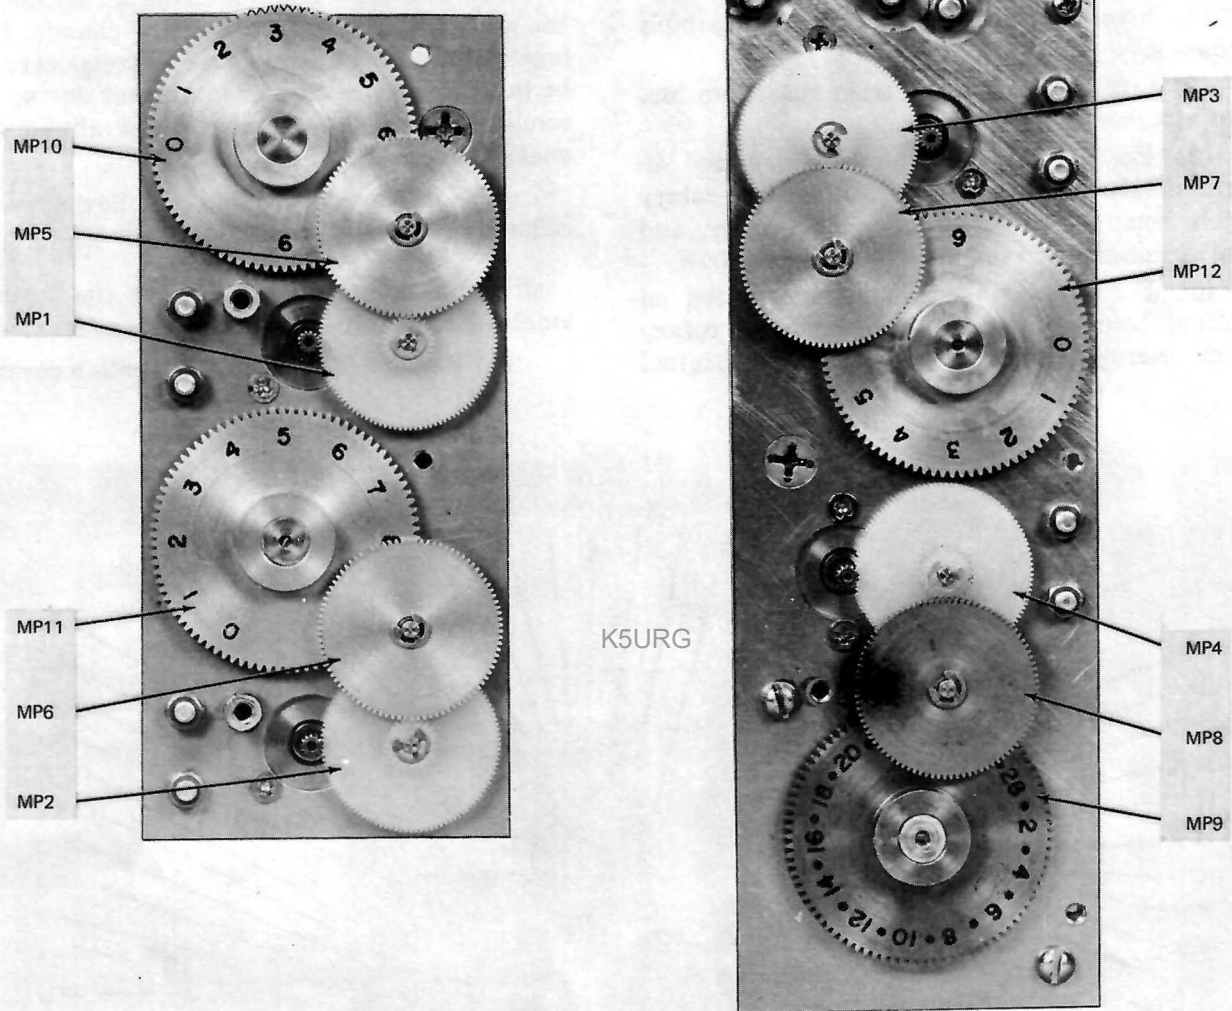
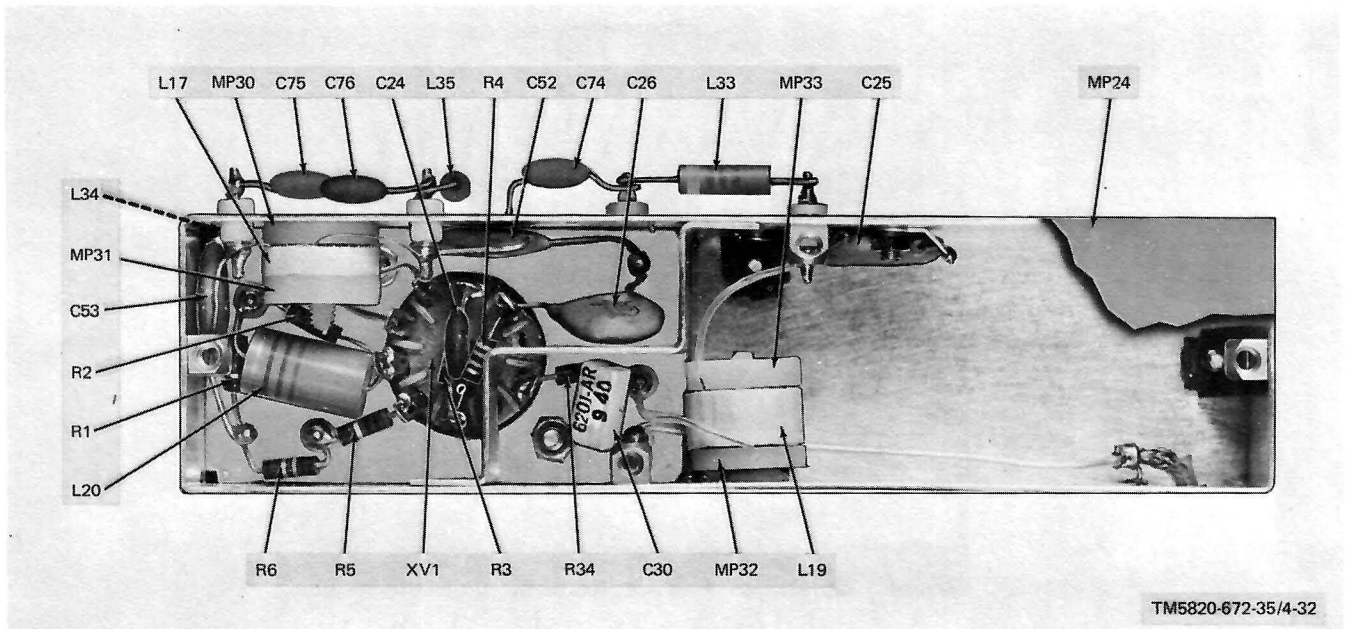

Figure 3-3. Digital to analog converter module gear train.
Figure 3-4. Input RF amplifier.
be taken to insure correct alignment during reassembly. Figure 3-3 shows correct alignment of gears to one another.
(5) For access to components mounted on terminal board mounted over relays, remove three screws. These screws must be *glyped* prior to reassembly.
(6) The gear train is made accessible, once the assembly is lifted clear of the chassis. If, for any reason, gears are removed, extreme care must be taken to insure correct alignment during reassembly. Figure 3-3 shows correct alignment of gears to one another.
(7) For correct reassembly, follow above procedures in reverse order.
c. Refer to figure 3-4. Remove the input RF amplifier assembly from the chassis as follows:
(1) Remove four screws that retain cover.